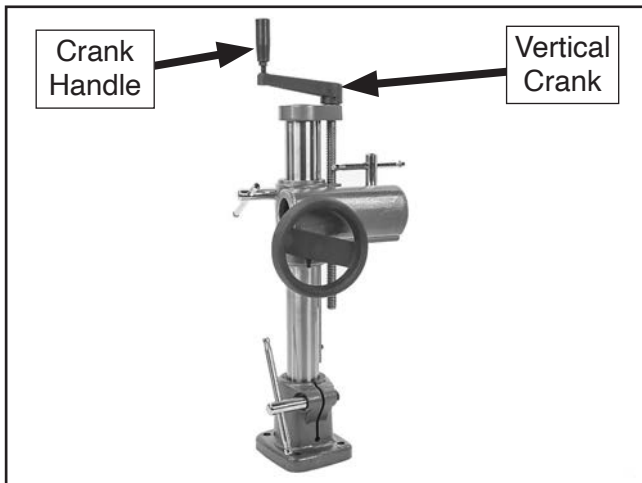

Figure 7. Vertical travel crank handle installed.
1. Place vertical column assembly onto machine table top, then attach crank handle to vertical crank shown in **Figure 7**.